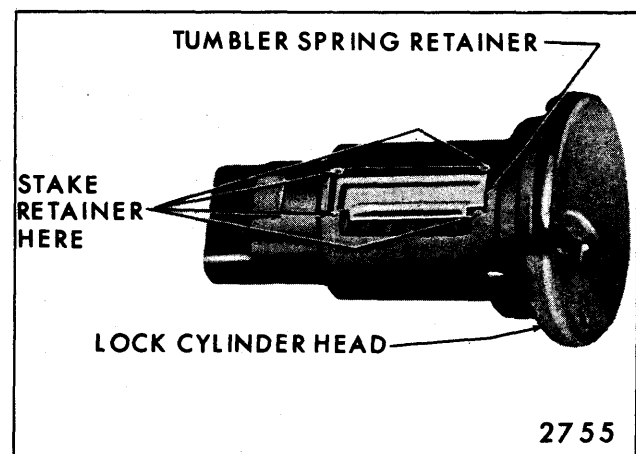

Fig. 1-6—Installing Spring Retainer
4. Insert the spring retainer so that the two end prongs slide into the slots at either end of the cylinder. Press the retainer down. (See Figure 1-6).
7. Using a suitable staking tool, stake the spring retainer securely in place by staking the cylinder metal over the retainer at each end. Refer to Figure 1-6.